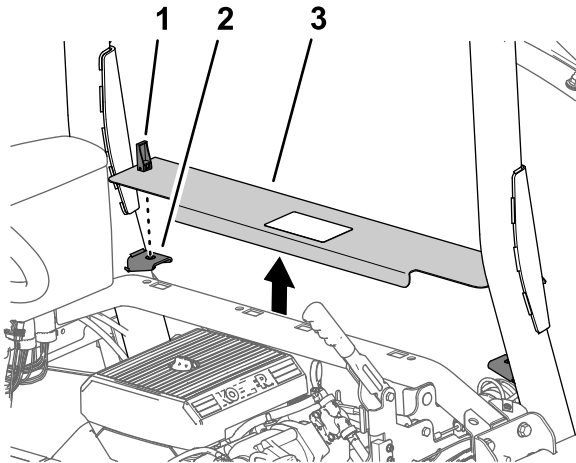

Figure 7
1. Rotate up the handles for the latches of the engine-access panel (Figure 7).
2. Lift the engine-access panel and remove it from the machine (Figure 7).